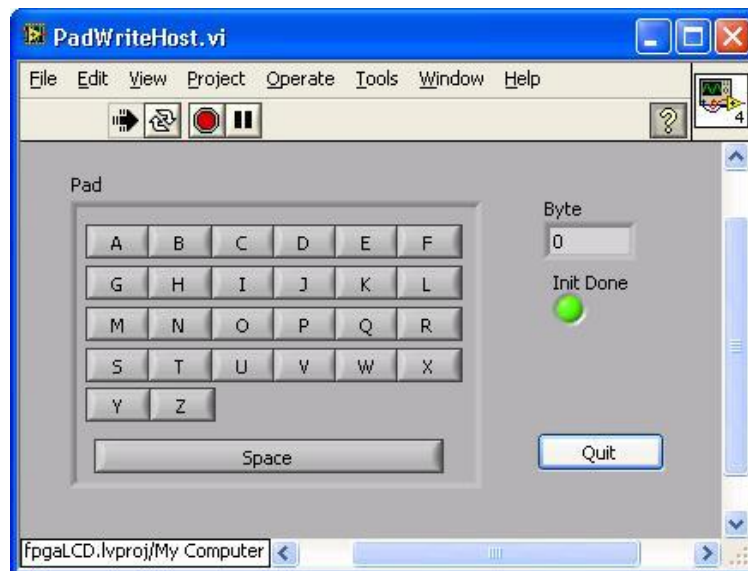

Figure 7: PadWriteHost VI
7. Click the **Run** arrow to download the code to the FPGA. Wait for the **Init Done** LED on the front panel to be ON to confirm that the initialization is finished as shown in Figure 7.